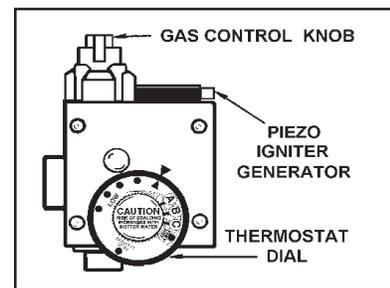

FIGURE 21.
**HOTTER WATER CAN SCALD:** Water heaters are intended to produce hot water. Water heated to a temperature which will satisfy space heating, clothes washing, dish washing, and other sanitizing needs can scald and permanently injure you upon contact. Some people are more likely to be permanently injured by hot water than others. These include the elderly, children, the infirm, or physically/mentally handicapped. If anyone using hot water in your home fits into one of these groups or if there is a local code or state law requiring a certain temperature water at the hot water tap, then you must take special precautions. In addition to using the lowest possible temperature setting that satisfies your hot water needs, a means such as a mixing valve, shall be used at the hot water taps used by these people or at the water heater. Mixing valves are available at plumbing supply or hardware stores. Follow manufacturer's instructions for installation of the valves. Before changing the factory setting on the thermostat, read the *Temperature Regulation* section in this manual, see Figures 21 and 22.